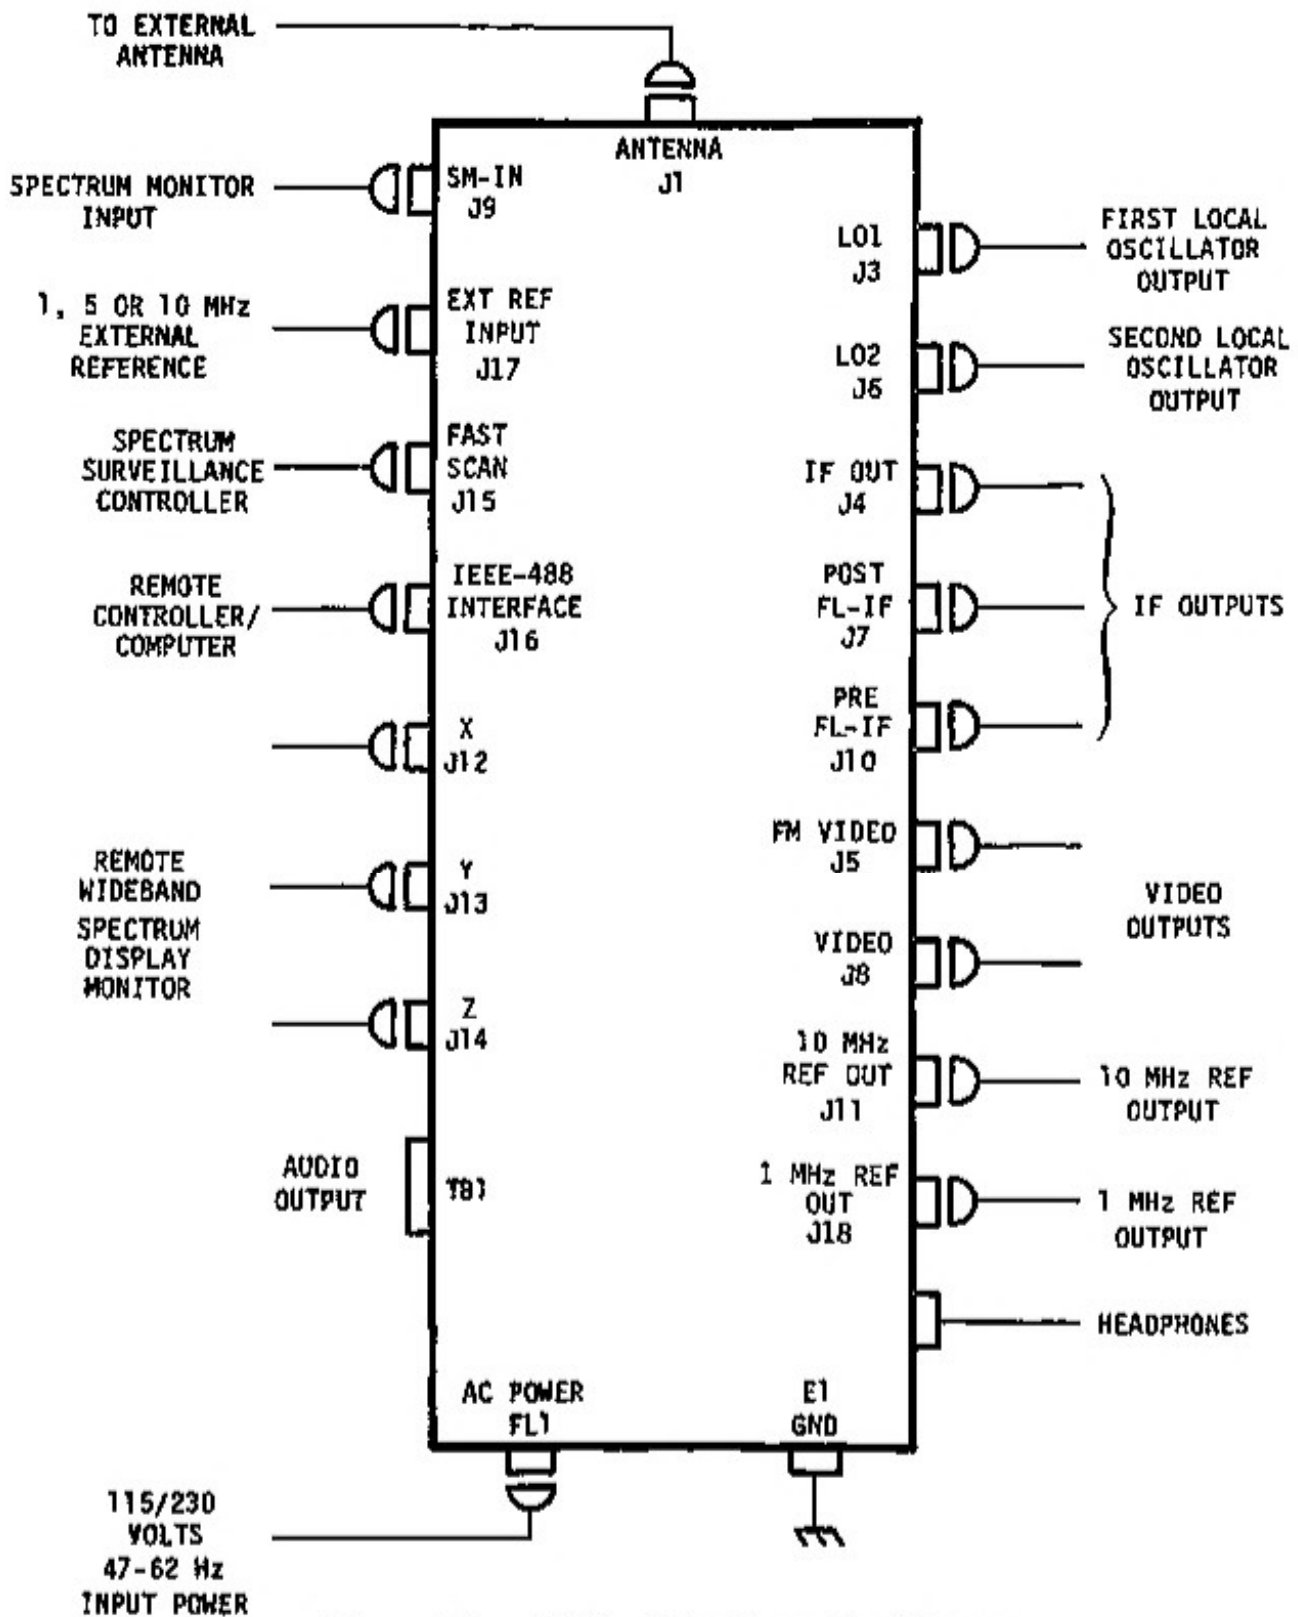

Figure 2-5. Cabling Interconnection Diagram
2-15. CABLING PROCEDURES - There are three sets of cabling associated with providing receiver operation: input power and signal cabling, output signal cabling, and special cabling. Input power and signal cabling, and output signal cabling must be implemented to complete the Receiver electrical installation as specified by this procedure. Cabling associated with optional operating applications may be implemented as described by Receiver operating instructions (See Figure 2-5 and 3-2).
4. Connect input signal cables (as required) between interfacing equipment and appropriate signal input connectors in accordance with Figure 2-5.
5. Connect output signal cables (as required) between appropriate signal output connectors and interfacing equipment in accordance with Figure 2-5.